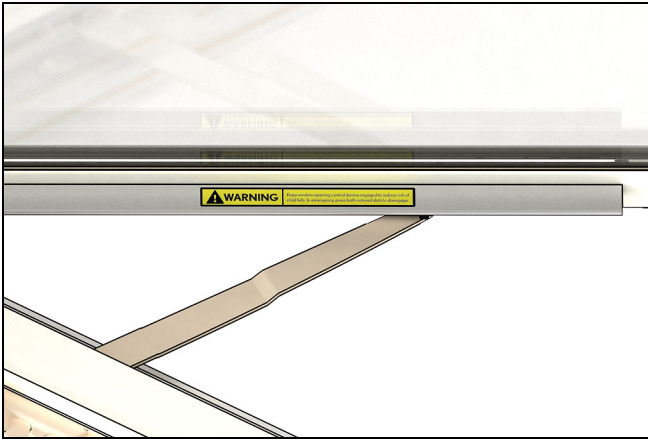

Figure 12 Place the WOCD sticker on clean guide track.
- For ESCA with a guide track, clean the guide track and place the WOCD sticker in the center of the guide track so it is readable from the interior. See Figure 12.